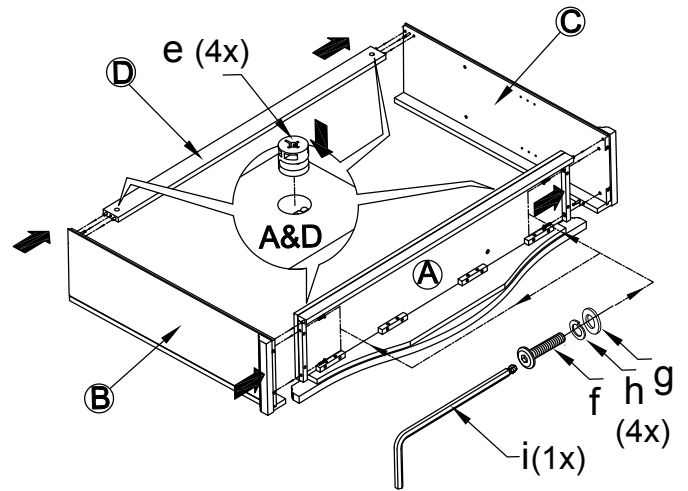

Figure 2.
- 2** Attach the Top panel(A)& the Back Bottom Rail(D) to Side panel(B&C) See Figure 2.